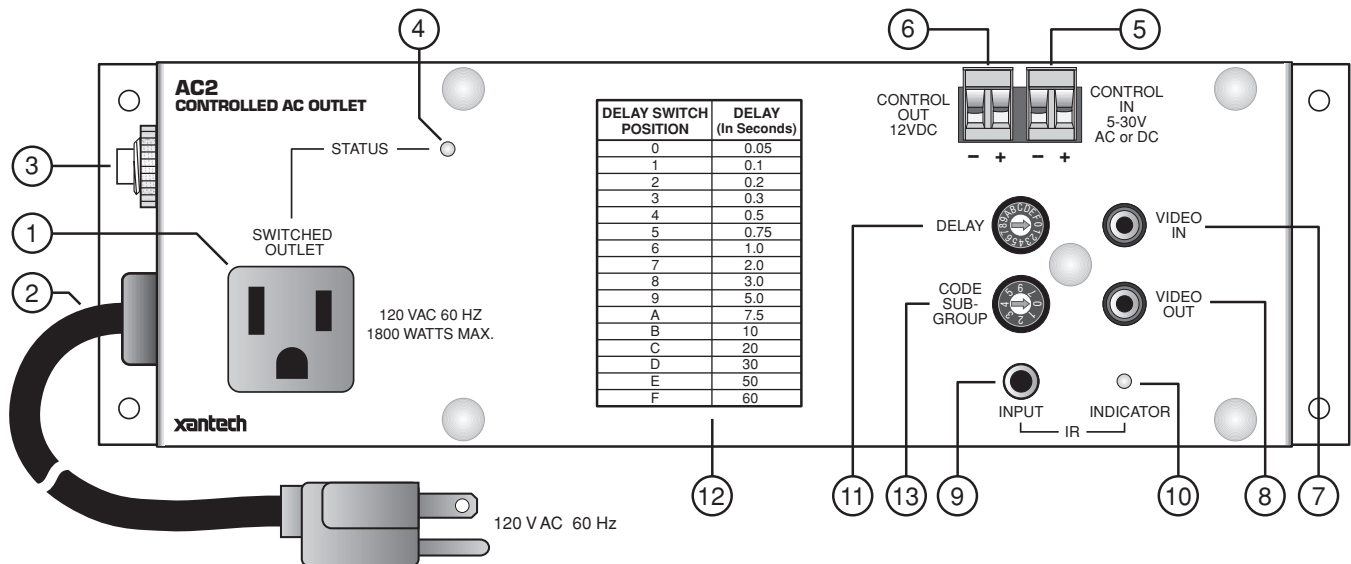

Fig. 1 The AC2
12. See **Figs. 1 & 4** for a chart of the available DELAY times vs DELAY SWITCH POSITION. **NOTE: Delay action does not apply to the IR INPUT signal.**